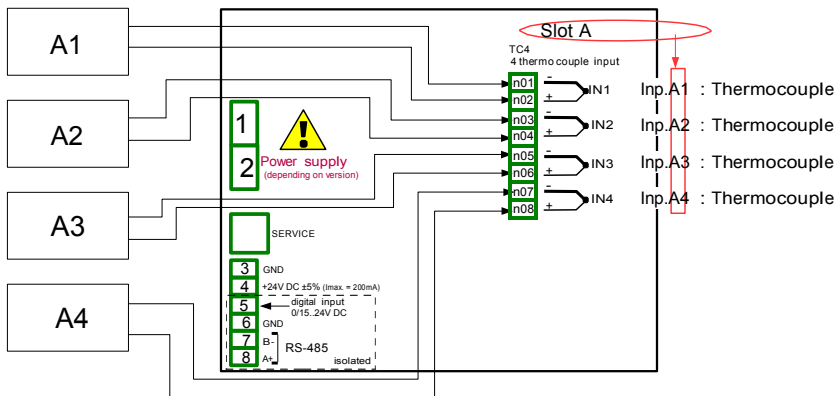

Fig. 7.63. Schematic diagram for the TC4 module
Before measuring temperature the thermocouple sensors should be connected to the device. An example of how the connection is shown in Fig. 7.63.
- Source parameter set as Inp. A1: Thermocouple (see the connection in Fig. 7.63),
- Source parameter set as Source - Inp. A2: Thermocouple (see Fig. 7.63),
- Source parameter set as Source - Inp. A3: Thermocouple (see Fig. 7.63),
- Source parameter set as Source - Inp. A4: Thermocouple (see Fig. 7.63),